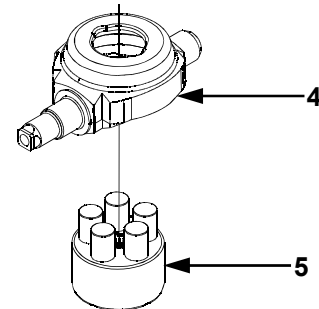

Figure 16
10. **(See Fig. 16)** Disassemble the pump cylinder block (5) from the swashplate (4).
15. (See Fig. 16) Place the pump block assembly (5), pistons down, on top of the thrust bearing in the swashplate (4).